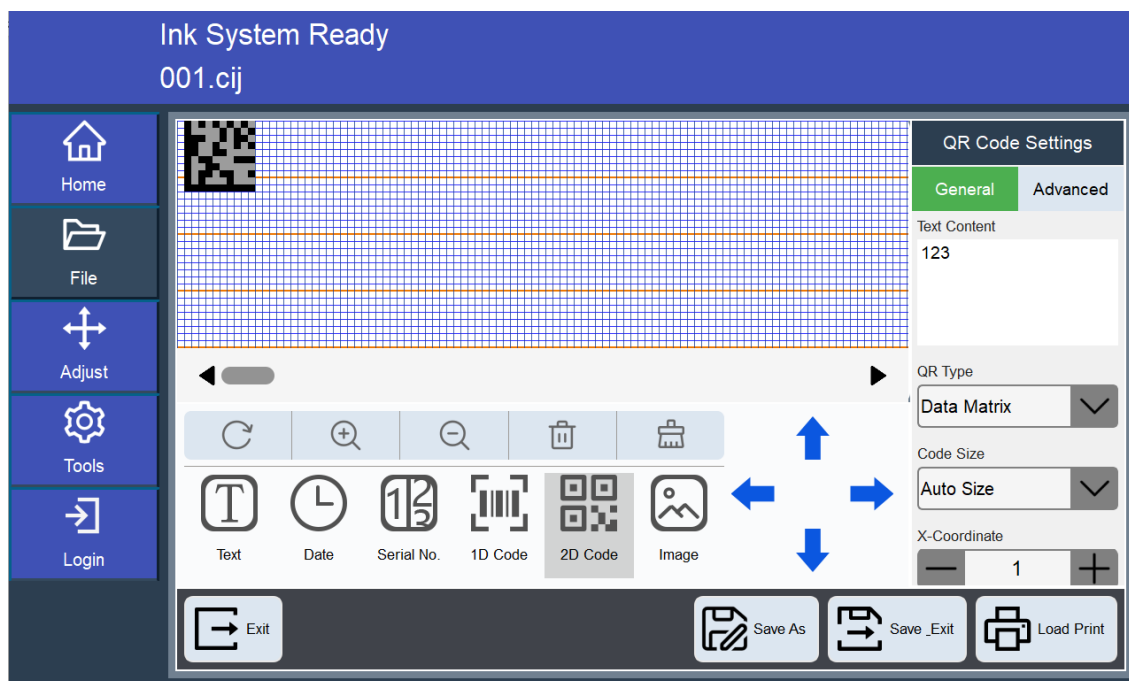

Figure 3-10 2D Barcode Editing Interface
1. To print a 2D barcode, tap the  button in the element selection area. A default 2D barcode will appear in the [Message Editing Area], as shown in Figure 3-10.